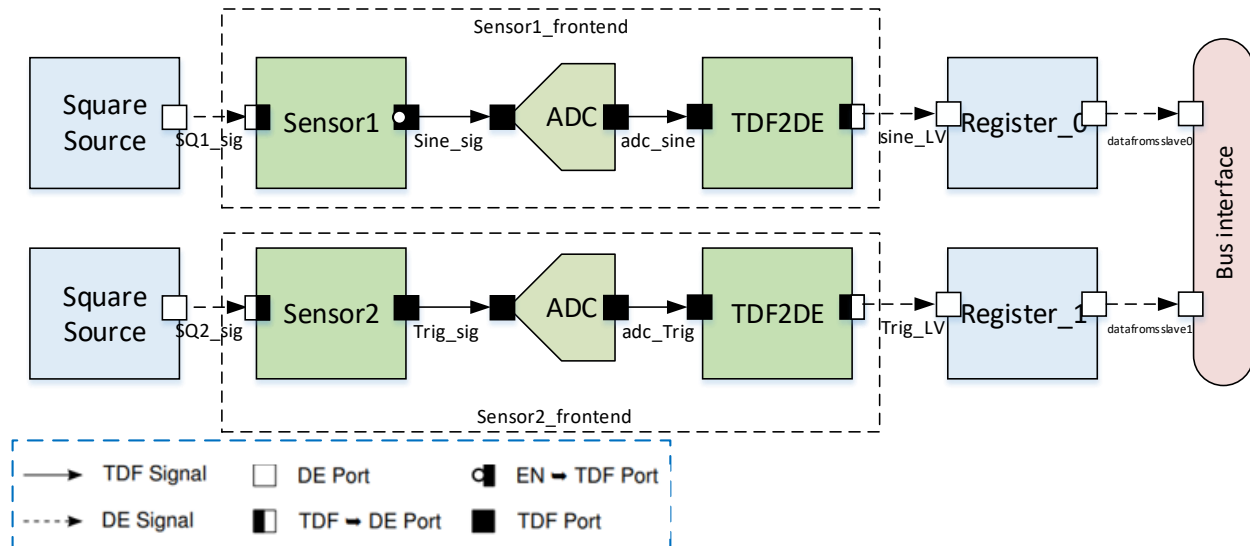

Figure 2: Sensor packages
Figure 2 shows the sensor packages. Each package includes an input source module, a sensor frontend, and a register to store the digital data.
- Sensor 1:** This sensor is a lowpass filter that generates a sine wave from its input square wave. As shown in Figure 2, this filter receives a DE input, and the output is a TDF signal. Use the necessary input and output data types. For the output you need an eln:tdf voltage sink.
- **Sensor 2:** This sensor is an integrator circuit implemented with a Laplace equation as explained in the lectures. It converts the square wave to a triangular wave. As shown in Figure 2, this filter receives a DE input, and the output is a TDF signal. Use the appropriate input and output data types.